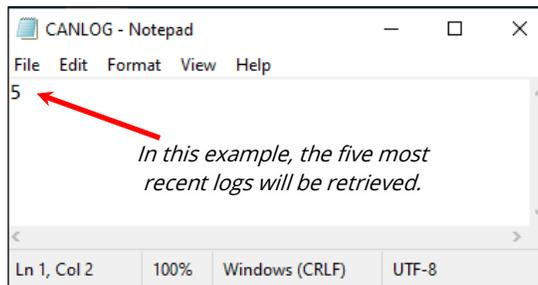

Figure 4: Open plain text file in PC
- d. **TYPE** number of data log files desired to be transferred to flash drive (Figure 4).